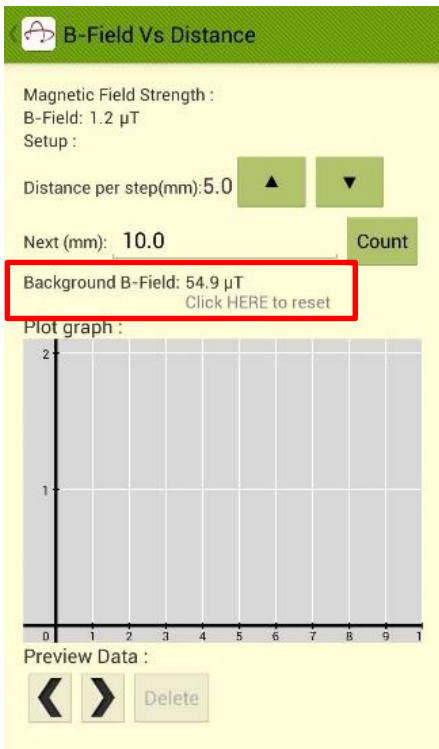

Fig 5.12
- Press the space next to “Background B-Field” to count the background magnetic field. The background field strength will be shown in the space (Fig 5.12). The magnetic field reading will show a normalized value after eliminating the background field, so that you can detect the magnetic field strength of a single object more accurately. Press again to reset the background value if necessary.